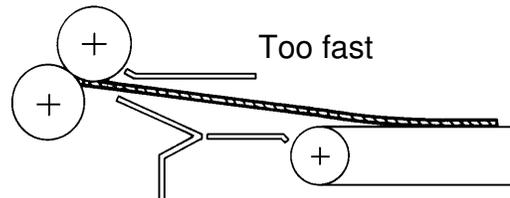
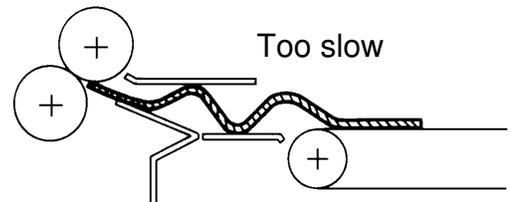

Fig. 2
Fig. 3
3. Observe the paper condition when the paper is pulled by the fusing rollers. If the paper is pulled strongly by the fusing rollers (figure 2), lower the speed of the fusing rollers by choosing a lower setting for SPD#720. If the paper buckles (figure 3), increase the speed of the fusing rollers by choosing a higher setting for SPD#720.
NOTE: In the case of figure 3, the copy image is scraped by the upper paper guide.